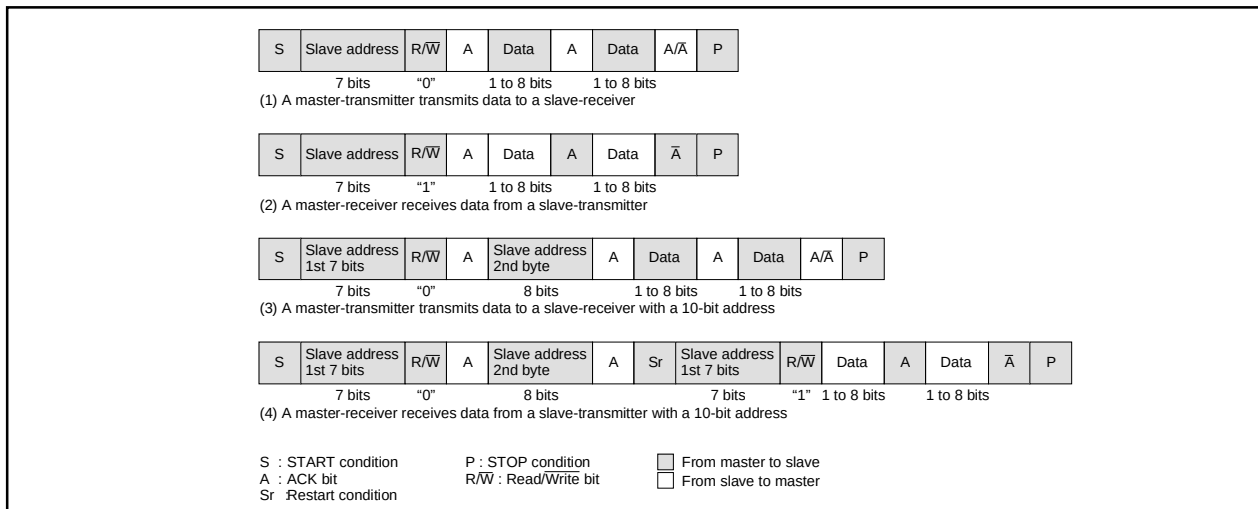

Fig. 2.11.45 Address data communication format
To meet the 7-bit addressing format, set the 10BIT SAD bit of the I²Ci control register to “0.” The first 7-bit address data transmitted from the master is compared with the high-order 7-bit slave address stored in the I²Ci address register. At the time of this comparison, address comparison of the RBW bit of the I²Ci address register is not made. For the data transmission format when the 7-bit addressing format is selected, refer to Figure 2.11.45, (1) and (2).
When the first-byte address data matches the slave address, the AAS bit of the I²Ci status register is set to “1.” After the second-byte address data is stored into the I²Ci data shift register, make an address comparison between the second-byte data and the slave address by software. When the address data of the 2nd bytes matches the slave address, set the RBW bit of the I²Ci address register to “1” by software. This processing can match the 7-bit slave address and $R/\overline{W}$ data, which are received after a RESTART condition is detected, with the value of the I²Ci address register. For the data transmission format when the 10-bit addressing format is selected, refer to Figure 2.11.45, (3) and (4).
(11) Example of Master Transmission